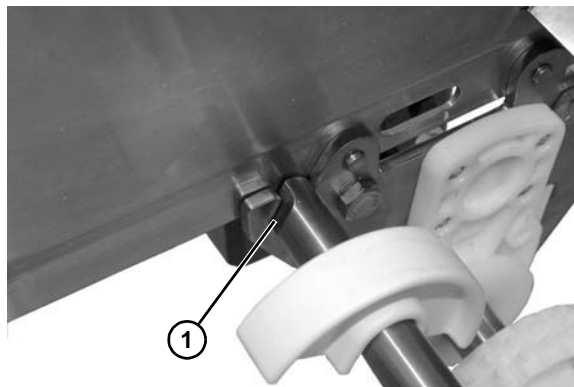

Figure 39
6. When replacing belt return, be sure shaft is seated in pocket on side plate (Figure 39, item 1).